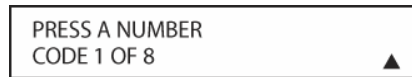

Figure 42
- The next step is important, as it determines which codes will operate the source device or display. Point the AVR remote at the device being programmed and, following the instructions shown in the remote’s LCD **Information Display [oval 3]**, press and release the **Alphanumeric Keys [oval 46]** shown on the menu screen (**Figure 42**) one at a time, starting with the “1” button. After you press the “1” **Button [oval 46]**, the remote’s LCD screen will briefly go blank as the code is being transmitted, but you will see the “transmit” icon in the upper right corner of the display to serve as confirmation that the remote is sending out commands.